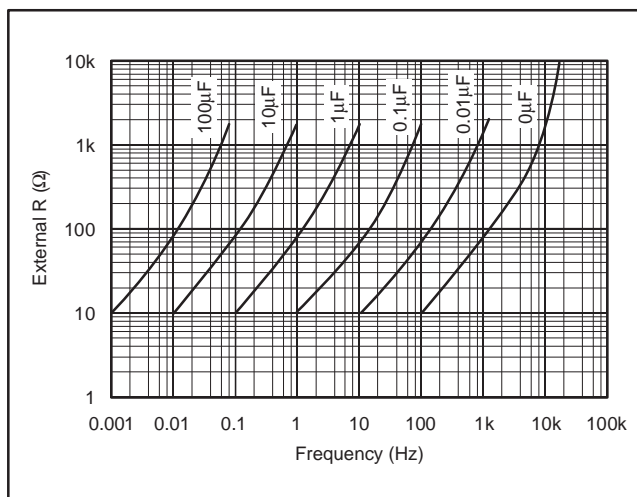

Figure 7.
After selecting the capacitor for a particular frequency, the value of the required resistor can be obtained by using the resistor selection curve shown in Figure 7 or by Equation (3).